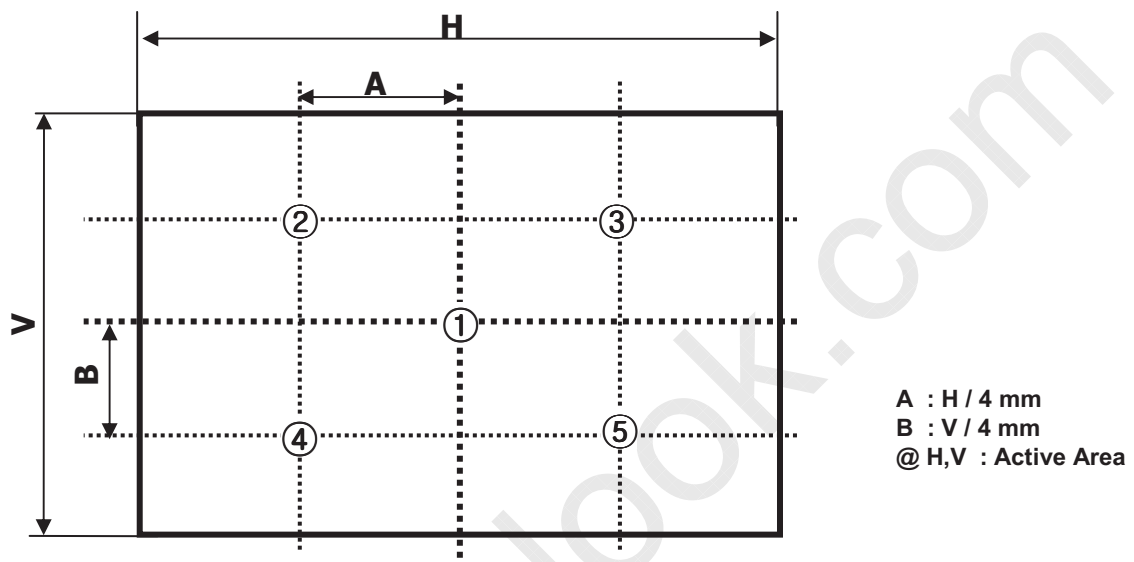

FIG. 2 5 Points for Luminance Measure
- Surface luminance are determined after the unit has been 'ON' and 1 Hour after lighting the backlight in a dark environment at $25 \pm 2^\circ\text{C}$. Surface luminance is the luminance value at center 1-point across the LCD surface 50cm from the surface with all pixels displaying white. For more information see the FIG. 2.
Where L_{on1} to L_{on5} are the luminance with all pixels displaying white at 5 locations . For more information, see the FIG. 2.